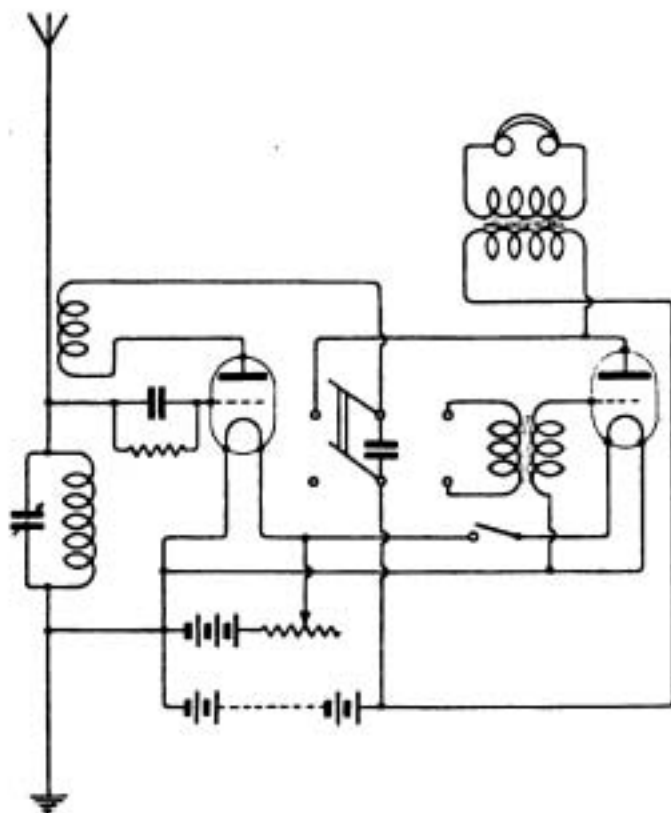

Fig. 4.
C.J.W.P. (Harrow) draws attention to an unnecessary connection in Fig. 4, page 526, of the November 12th issue of "The Wireless World," and asks (1) If this is incorrect. (2) If a grid potentiometer will improve the working of the first valve in this set. (3) What is the percentage magnification with the L.F. magnifier.
- (1) Correct diagram is given in Fig. 4, herewith.
- (2) Practically no improvement would be noticeable, as most valves are near a good magnifying